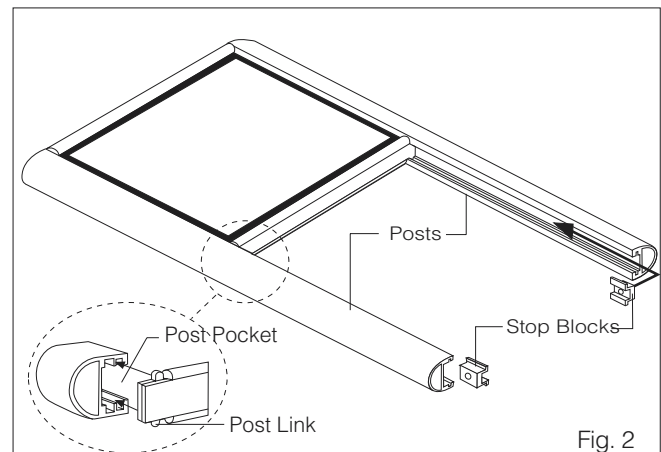

Fig. 2
1. Remove Stop Blocks from the bottom of each post by loosening the set screw and sliding out. Lay posts horizontally or stand posts upside down on a protected surface (Fig. 2).
2. Slide the Display Cartridge into place, aligning post link retainers to post pocket as shown. (Fig. 2)